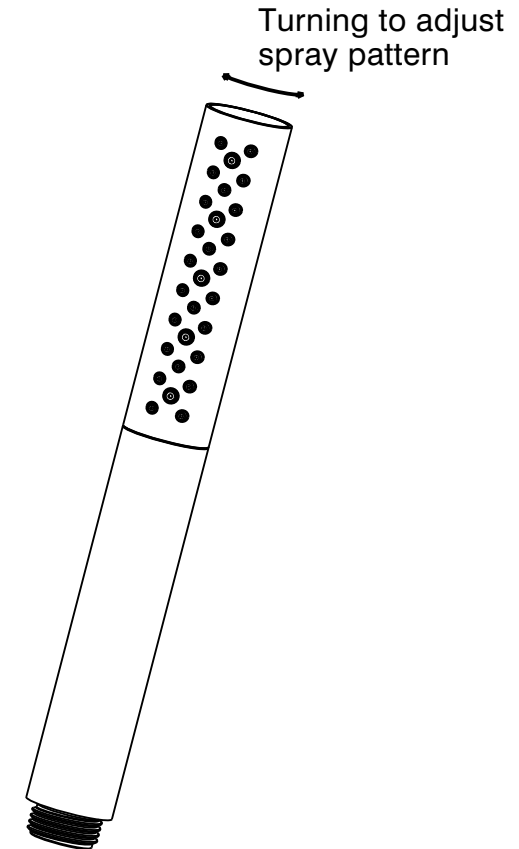

Fig. 2
- 1) Ensure that the flow regulator (2) is fitted into handset (1) and the flat washer (3) is fitted into the conical end of shower hose (4), then screw the hose onto the outlet bracket (not shown) and handset (1).
Note: Spray pattern can be adjusted by turning head of handset (1) as shown in Fig. 2.